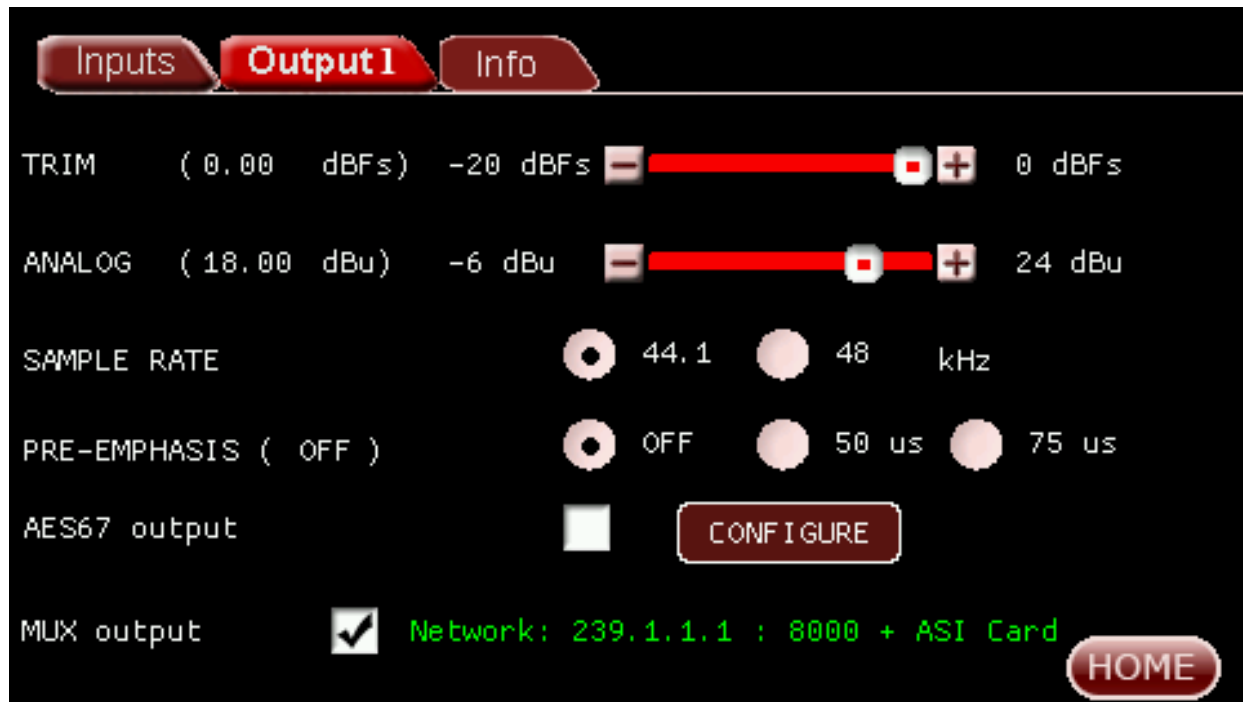

Figure 3.3.10: Output Configuration of Q24-4888 – MUX output to Network and ASI Card
- The destination of the transport stream is shown next to it, according to the Output To setting of the Multiplexer panel (Section 2.6): the network address and port (for example Network: 239.1.1.1 : 8000), ASI Card, or both, as shown in Figure 3.3.10.